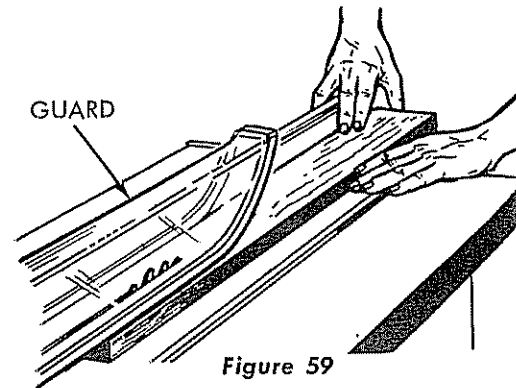

Figure 59
1. The process of sawing wood with the grain is known as "ripping". It is generally done with the aid of a rip fence as a guide to position and maintain the work at correct width for the desired cut. (See figure 59.) Since the work is pushed along the fence, it must have a reasonably straight edge to make sliding contact with the fence. Also, work must make solid contact with the table, so that it will not wobble. Provide a straight edge, even if this means temporarily nailing of an auxiliary straight edge board to the work. If workpiece is warped, turn the hollow side down.